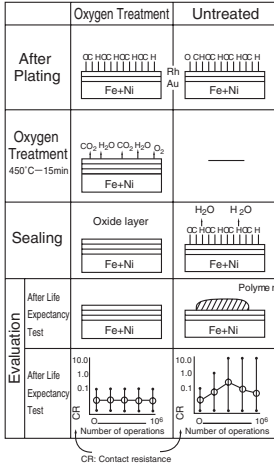

Figure 2.1
Therefore, rhodium-plated contacts adsorb organic impurities and form polymers during operations as shown in Figure 2.1. This greatly increases the contact resistance. In the low-level load operation, this phenomenon is particularly noticeable.
- (1) Cutting and bending positions must be determined with reference to the center of the contact or to the end of the lead. If the position is measured from the end of the glass tube, the contact center position may be moved.
- (2) When in cutting or bending the leads, be sure to protect the sealing portions. As shown in Figure 2.1, the lead should be placed firmly by a jig.
- (3) After the process, confirm that there is no crack or chipping in the glass tube.